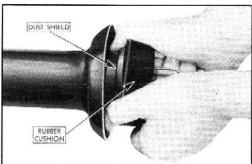

Fig. 33—Removing or Replacing Bearing Rubber Cushion
10. After the support bracket has been removed, the rubber cushion can be removed from the bearing with the hands as shown in Fig. 33.
3. Install the rubber cushion over the bearing, as shown in Fig. 33.